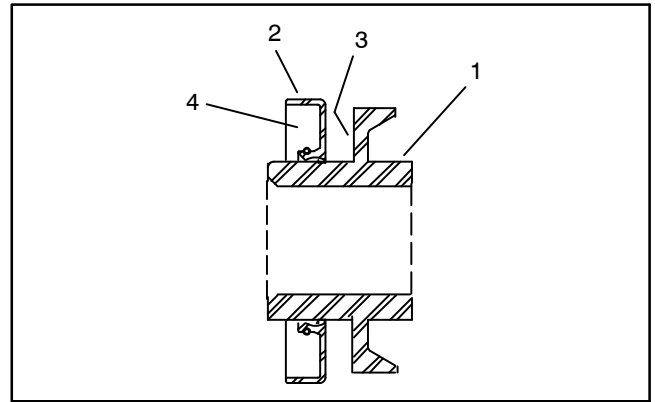

Figure 39
5. Apply a coating of grease to the nut surface to prevent seal damage during seal installation (Fig. 39).
6. Carefully install seals onto bearing lock nuts. Pack the back of the seal 75 to 90% full with #2 grease (Fig. 39).